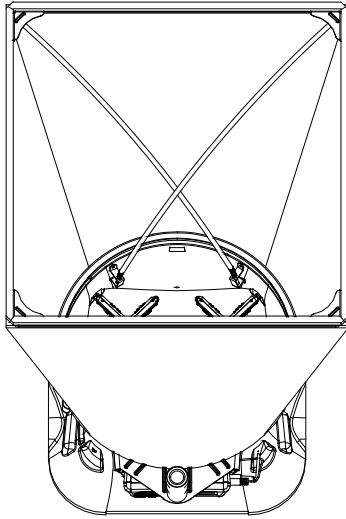

Figure 16: Installing a Support Pole
3. Grasp the support pole. Bend the pole slightly to insert the top end of the pole into the support pole cup located in the opposite corner of the fabric frame. The poles are connected to the frame corners in a crisscross fashion as shown in Figure 16.